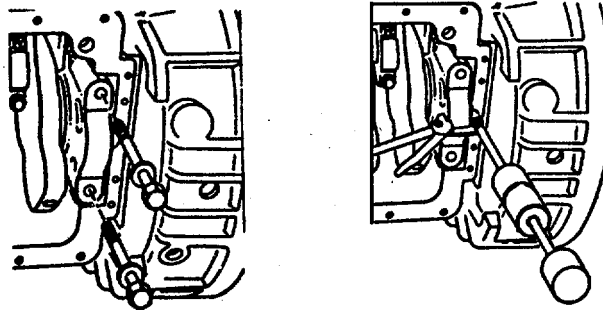

FIGURE 4-40. Removing Main Bearing Cap.
- (1) Remove the No. 7 main bearing cap capscrews and washers (Figure 4-40).